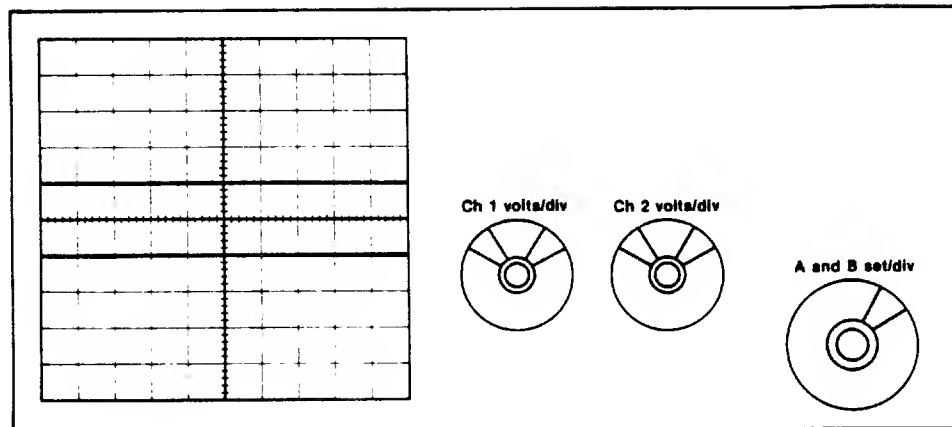

FIGURE 8-58. AMPLITUDE SIGNAL
8.3.7.6 Amplitude pattern on the oscilloscope must be 0.27 volts or higher (Figure 8-58).